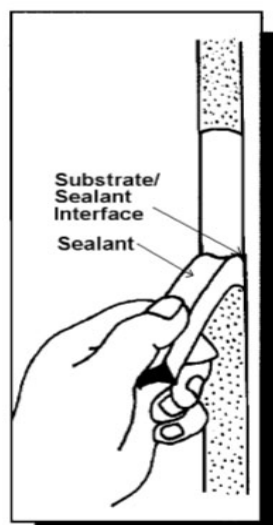

Figure 1
3. Grasp the 75mm piece of sealant firmly 25mm from its bonded edge and slowly pull at a 90-degree angle (see Figure 1)